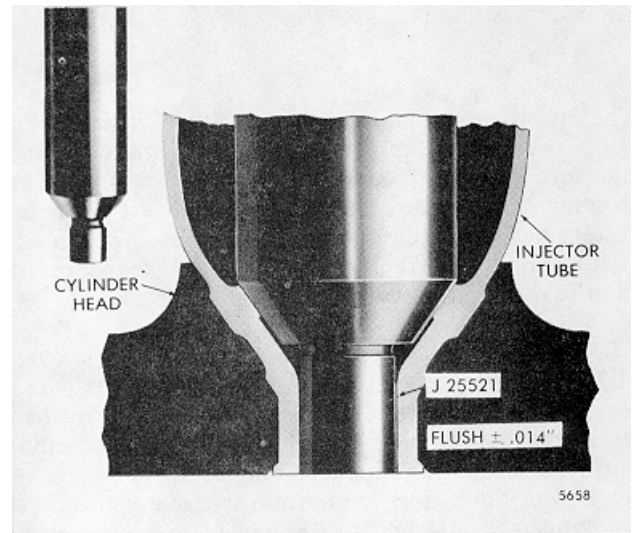

Fig. 7 Measuring Relationship of Gage to Fire Deck of Cylinder Head
Install gage J 25521 in the injector tube. Zero the sled gage dial indicator J 22273 to the fire deck. Gage J 25521 should be flush to  $\pm .014$ " with the fire deck of the cylinder head (Fig. 7).
- d. Remove the chips from the injector tube and, using gage J 25521, continue the reaming operation until the shoulder of the spray tip is flush to  $\pm .014$ " with the fire deck of the cylinder head as shown in Fig. 7. Then wash the interior of the injector tube with clean solvent and dry it with compressed air.